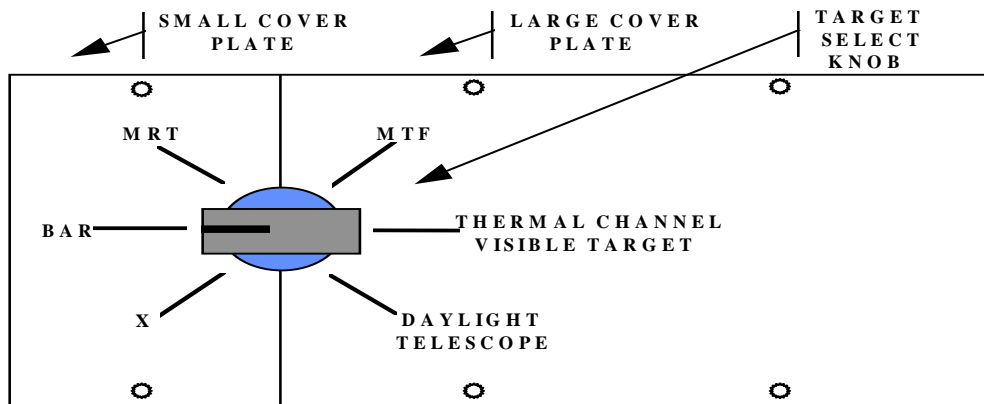
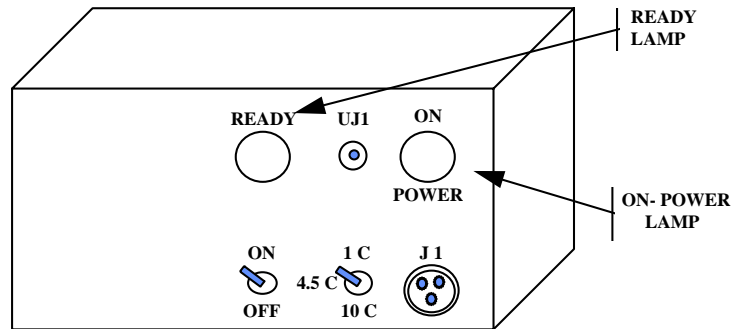

Figure 2. Top view TI.
Figure 4. TI side view
- b. Remove cables from transit case and rotate TARGET SELECT KNOB to BAR position (fig. 2).
- c. Remove four screws from LARGE COVER PLATE and remove LARGE COVER PLATE (fig. 2).
- e. Loosely replace LARGE COVER PLATE (fig. 2).
- f. Perform steps (1) through (6) below:
- (1) Ensure TI **ON - OFF** switch is in **OFF** position.
- (2) Position TI **1°C - 4.5°C - 10°C** switch to **4.5°C**.
- (3) Connect ac power cable supplied to J1 (fig. 4).
- (3) Verify **READY** lamp blinks approximately once a second; if not, perform **b(1)** below.
- (4) Set TI **ON OFF** switch to **OFF**.
- (5) Remove **LARGE COVER PLATE** (fig. 2).
- (7) Loosely replace **LARGE COVER PLATE** (fig. 2).
(6) Remove LARGE COVER PLATE (fig. 2) from TI.
(8) Loosely replace LARGE COVER PLATE (fig. 2).
You may need to remove SMALL COVER PLATE (fig. 2).
(c) Connect digital multimeter to UJ1 (fig. 4).